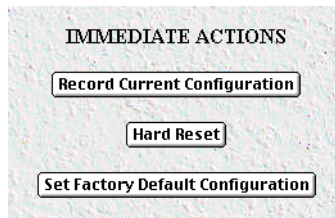

Figure 23. Immediate Actions buttons
- **Record Current Configuration**—clicking on this button (see figure 23) saves the current configuration from volatile DRAM memory to FLASH memory. Once the configuration is saved into FLASH memory, the configuration will not be lost even if the power is cycled on the 3196RC. Initially, changes made to the 3196RC configuration are stored in volatile DRAM, enabling the user to set the box up with a working configuration before committing it to storage in FLASH. When you select **Record Current Configuration**, the 3196RC stores your changes to FLASH memory.
- **Hard Reset**—this button (see figure 23) causes the Model 3196RC to perform a cold restart. When you select **Hard Reset**, the T-DAC confirms that you want to execute this command. Then, the T-DAC will disconnect all current sessions, re-initialize the interfaces, and re-load configuration parameters from FLASH.
- **Set Factory Default Configuration**—this button (see figure 23) clears out the configuration in FLASH and loads the factory default parameters into FLASH memory. The factory default settings will not execute on the Model 3196RC until it is re-booted by doing a Hard Reset.
**Note** **Set Factory Default Configuration** (figure 23) will delete any routing information, the Model 3196RC's Ethernet IP address, and any other site-specific settings made for your particular installation. You will have to re-enter the Model 3196RC's Ethernet IP address and net-mask using the rear panel control port before using the HTTP/HTML Management pages.